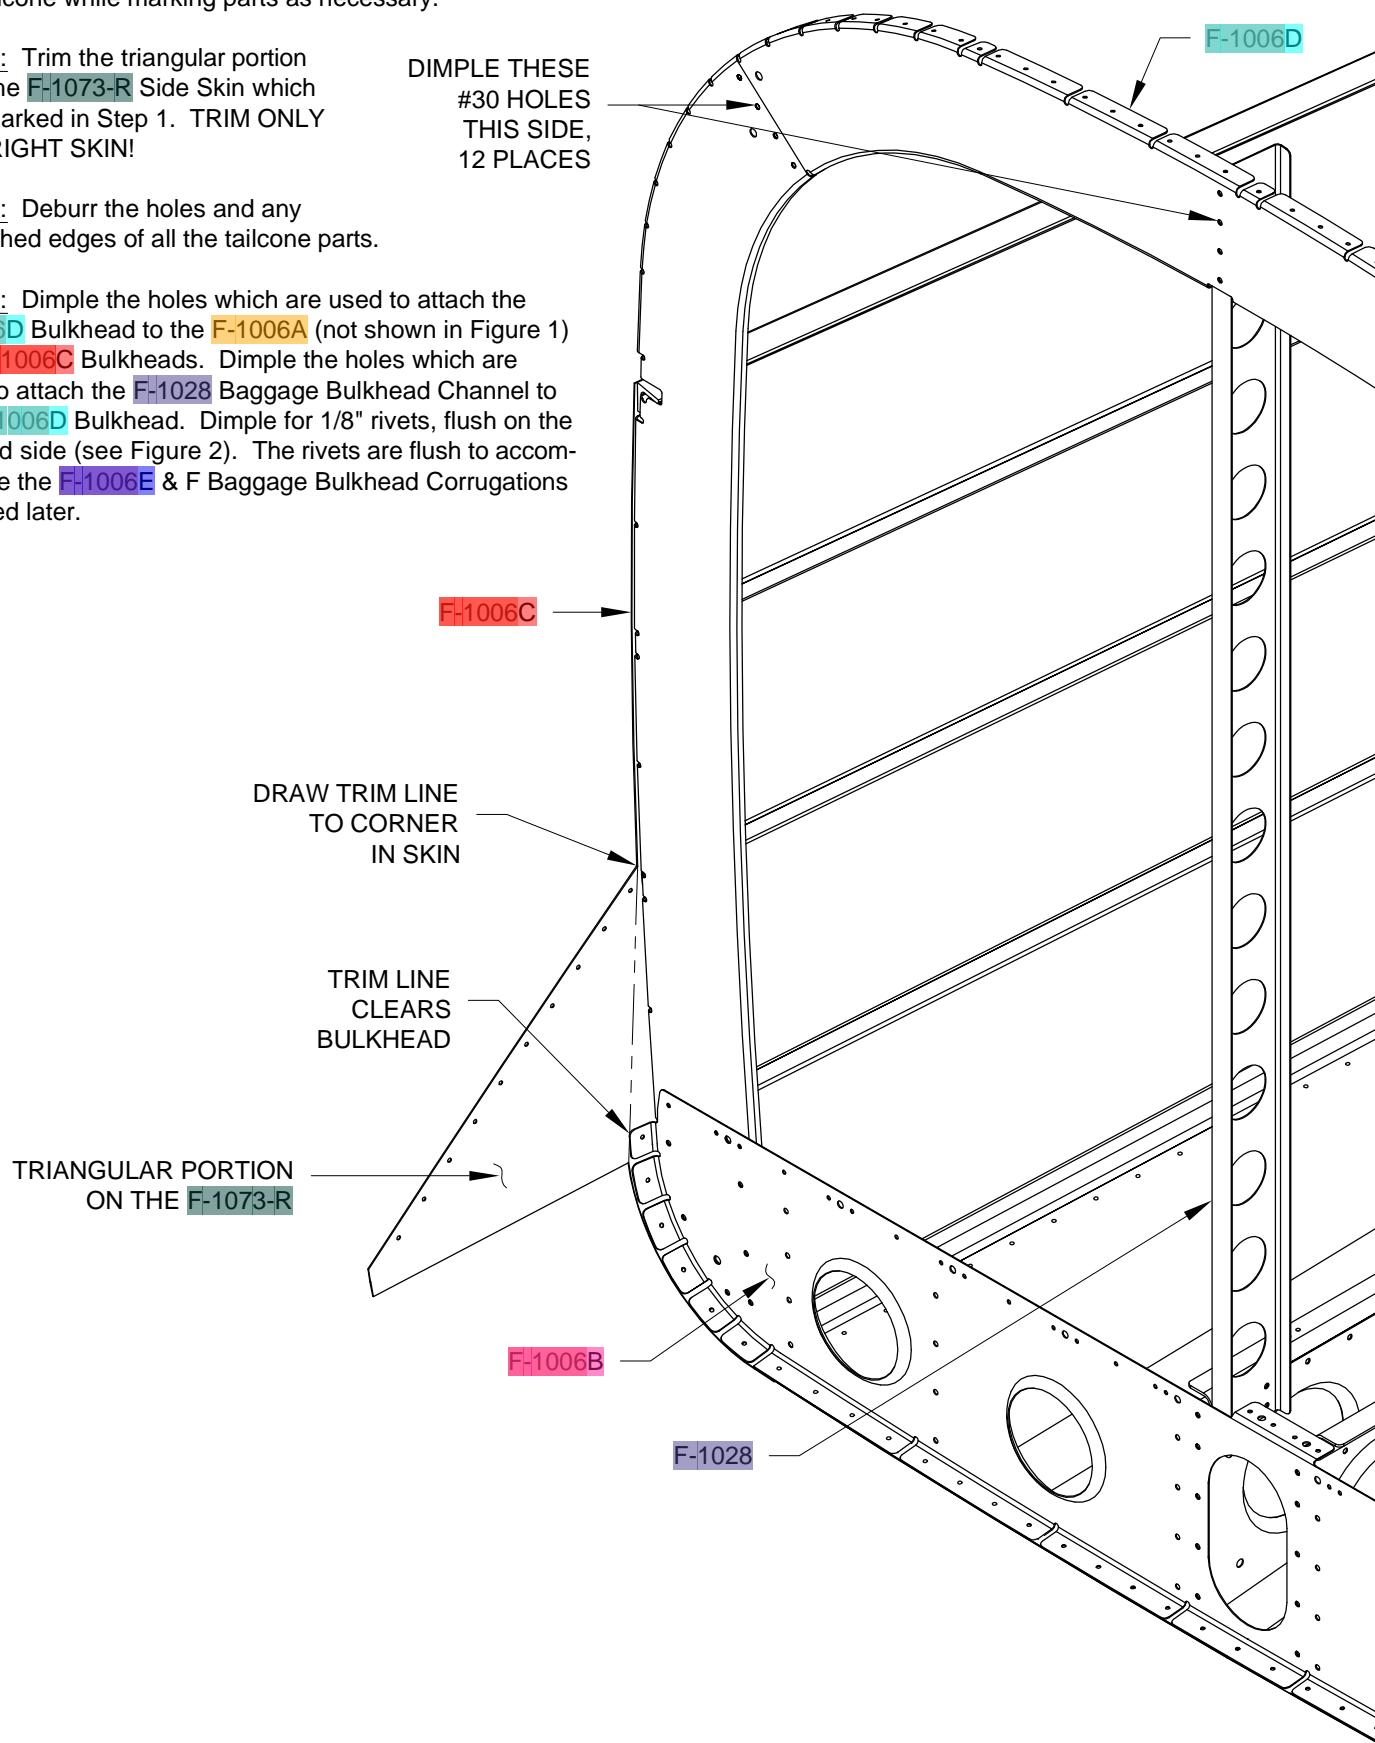
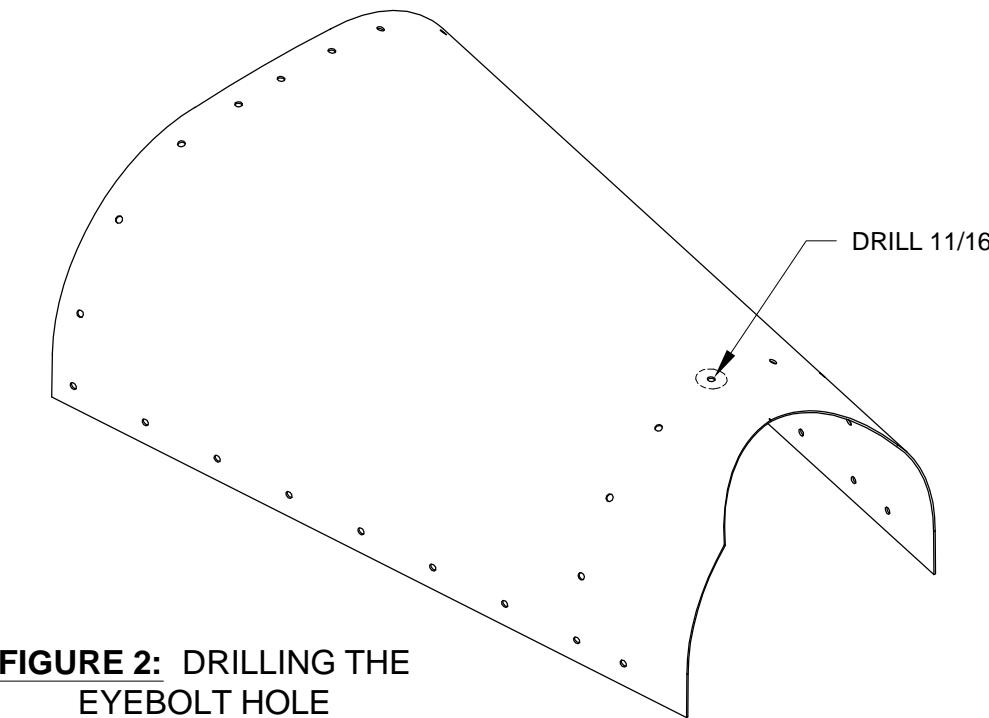

FIGURE 1: MARKING THE RIGHT SIDE SKIN FOR TRIMMING
FIGURE 2: DRILLING THE EYEBOLT HOLE
Step 5: Dimple the holes which are used to attach the F-1006D Bulkhead to the F-1006A (not shown in Figure 1) and F-1006C Bulkheads. Dimple the holes which are used to attach the F-1028 Baggage Bulkhead Channel to the F-1006D Bulkhead. Dimple for 1/8" rivets, flush on the forward side (see Figure 2). The rivets are flush to accommodate the F-1006E & F Baggage Bulkhead Corrugations installed later.
Step 6: Final-Drill the hole indicated in Figure 2 to 11/16 using a Unibit step drill. This hole provides clearance for the tie down eyebolt.